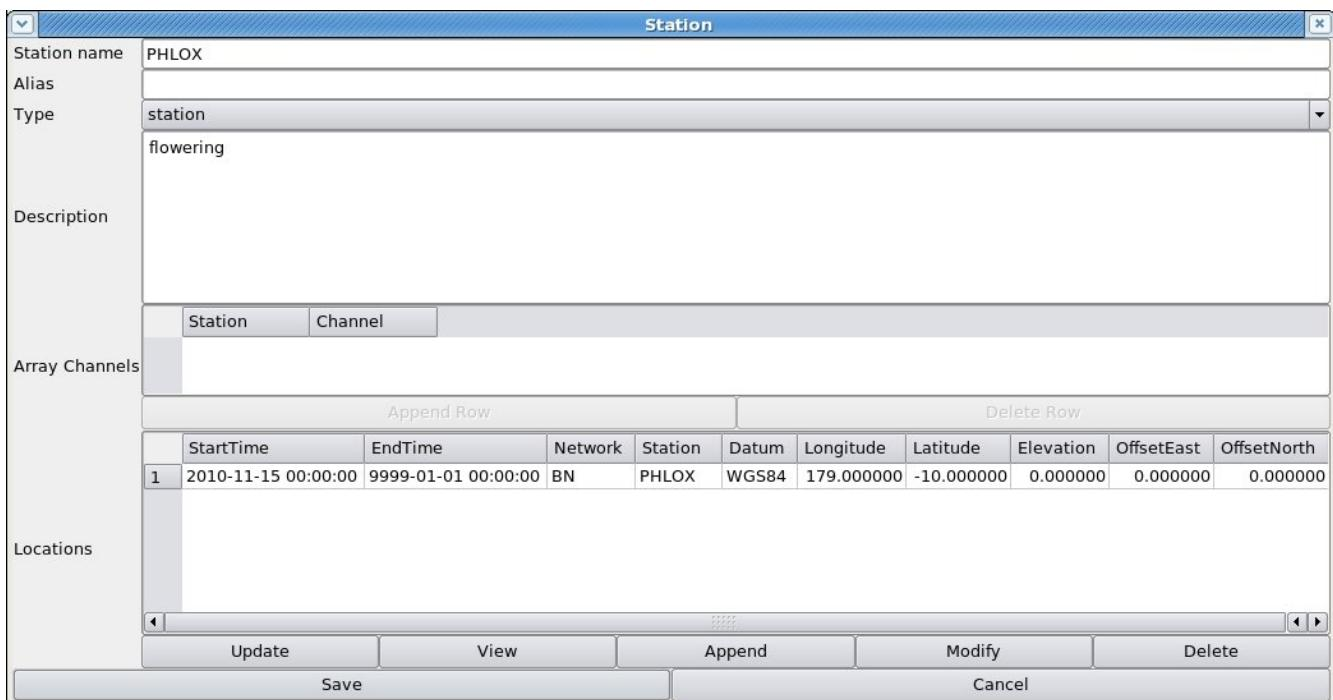

Figure 17: Station Edit window for single station, with location added.
1. Create the station in the “Stations” tab by pressing the “Append” button at the bottom. In the “Station Edit” window (Figure 17), enter the name of the station and any description you want, but don’t try to enter the station location yet. Press “Save” (if you enter the station location before pressing “Save” then it will return with the error that the station does not exist).